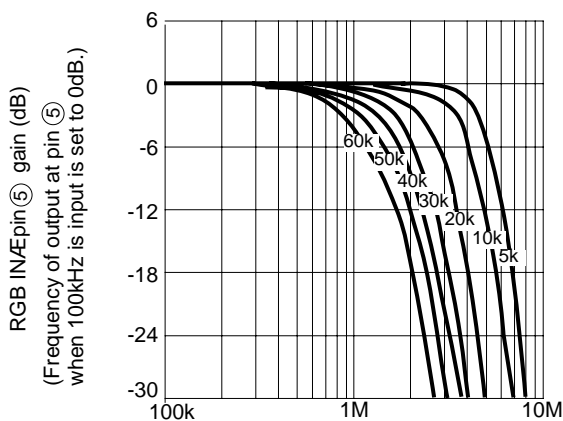

Fig. 1 Frequency characteristics of color difference LPF
(3) Setting of chroma difference LPF
The frequency characteristics of the chroma difference LPF which is built in this IC can be set as shown in Fig. 1 by connecting a resistor externally to pin ⑳ (fc CONT.).